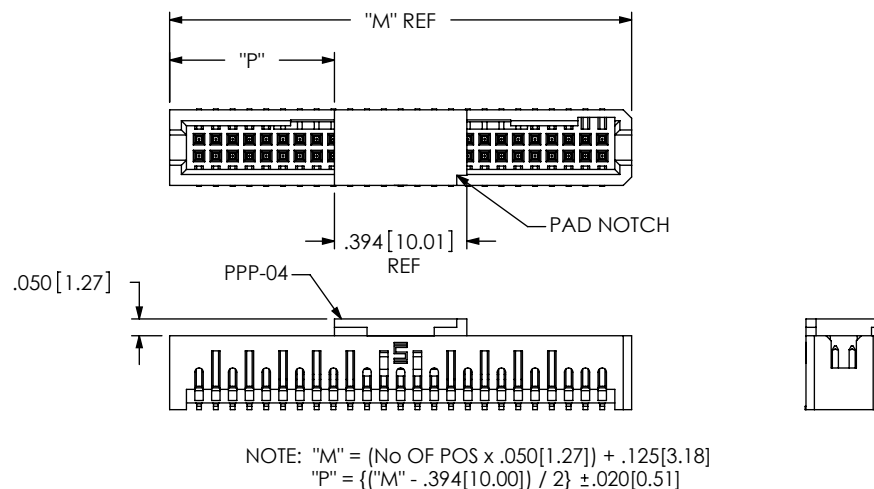

FIG. 4
- RA: RIGHT ANGLE (LEAD STYLE -01 ONLY) (SEE FIG. 4, SHT 2)